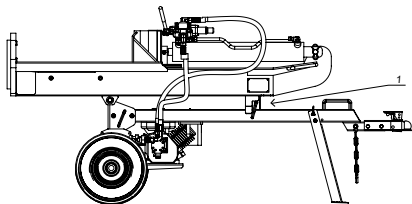

Figure 12
1. Insure front pin is completely engaged to secure front of splitter beam. (See fig. 12)